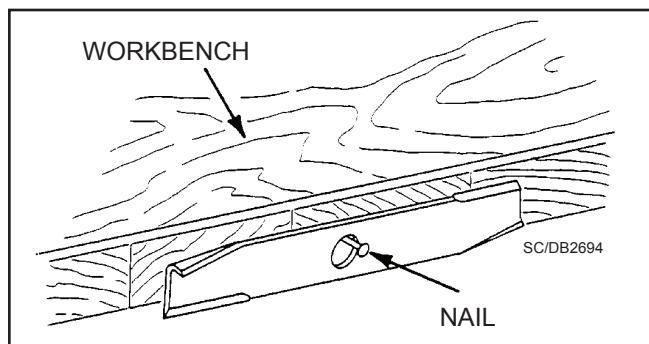

Figure 18. Blade Balancing
- Sharpen both cutting edges equally to keep blade balanced. Balance blade using the method shown in Figure 18.